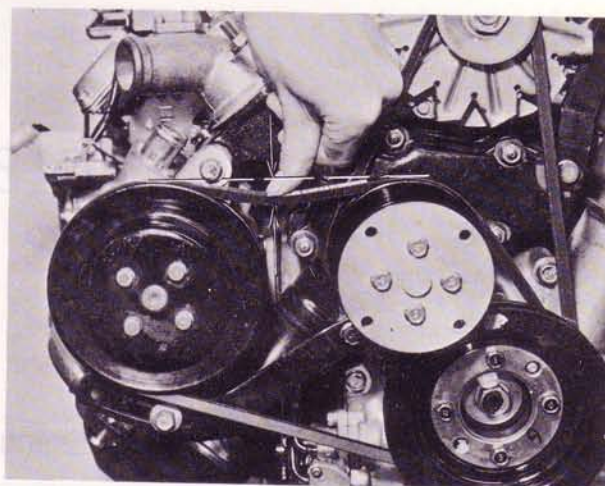

Fig. 1-95 Adjusting air pump belt
5. To adjust the "V" belt tension, push the "V" belt with about 10 kg (22 lb) as shown in Fig. 1-95. The belt deflection should be 10 ± 1 mm (0.40 ± 0.04 in).